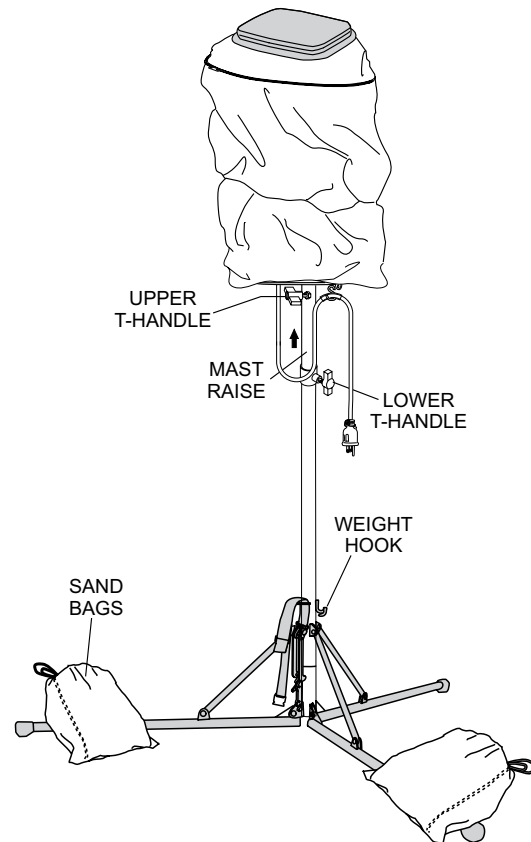

Figure 15. Sand Bags
1. Before raising the mast, make sure the upper T-handle bolt lock (Figure 15) is securely tightened. This will prevent the balloon/lamp assembly from falling off. In addition make sure that the lamp power cable is connected to the mating end of the 15 ft (4.5 meters) power source cable.
2. To improve stability and to prevent tipping of the light unit, place sand bags or similar type weight over the tripod legs or weight hook as shown in Figure 15.
3. Raise mast to desired height and tighten lower T-handle (Figure 15) securely.